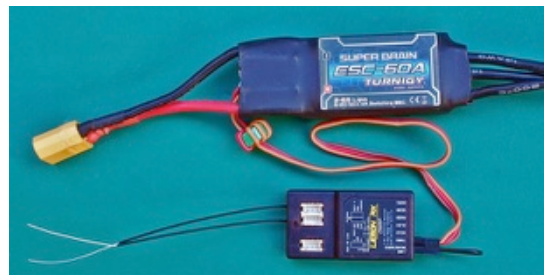

Figure 4: Bind plug inserted, power disconnected
1. With transmitter OFF and no power connected to the receiver, insert the bind plug into the first set of pins, labeled Bind/AUX2 (Figure 4). If a satellite is to be used it must be connected while binding.